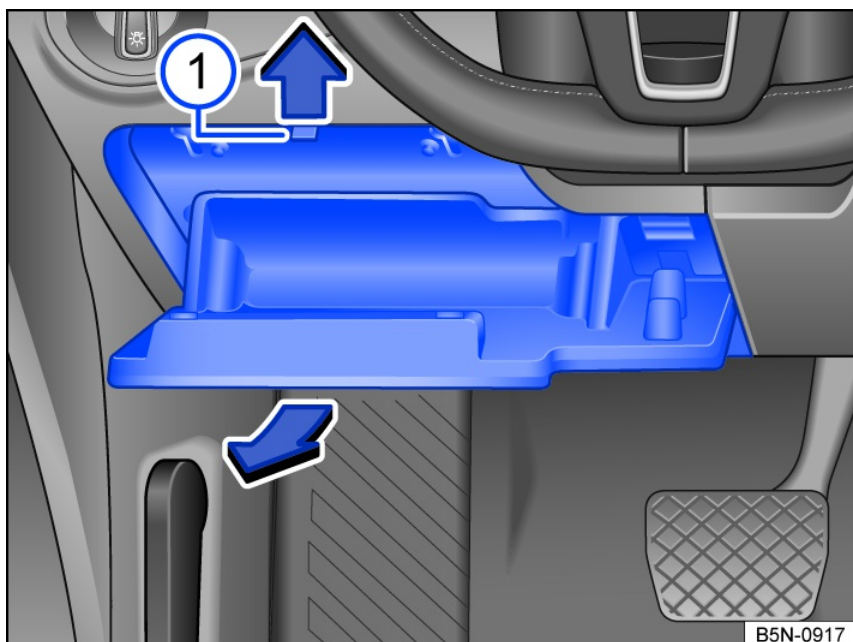

Fig. 176 Fuse box cover on the instrument panel: To the left of the steering wheel in left-hand drive vehicles.
- Open the storage compartment on the driver's side and empty it, if necessary fig. 176.
- Push the limit stop up, open the driver side storage compartment further in the direction of the arrow, and pull it out fig. 176 ①.
- Close the driver side storage compartment a little way, pushing up the limit stop if necessary fig. 176 ①.